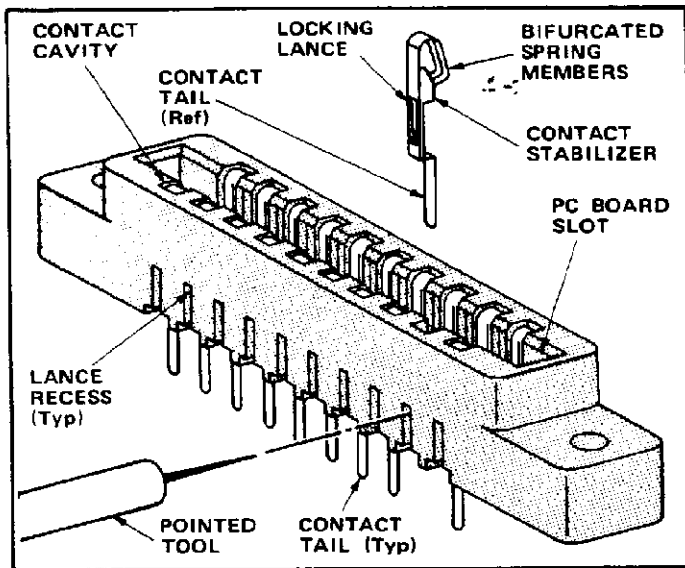

FIGURE 2
3. REMOVING A DAMAGED CONTACT (See Figure 2)
2. Align the tail of the contact with the contact cavity as indicated in Figure 2. Make sure the spring members are facing the center of the connector.